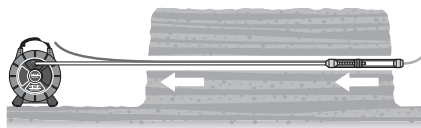

Figure 14 – Connect Utility Line To CROSSCHEK Inspection System
8. When the Inspection equipment comes out through the bore, remove the air hose. If needed, attach the utility (pipe, cable, etc.) to the CROSSCHEK Inspection System with appropriate adapters (*Figure 14*). Do not twist CROSSCHEK/Pushrod while attaching utility.